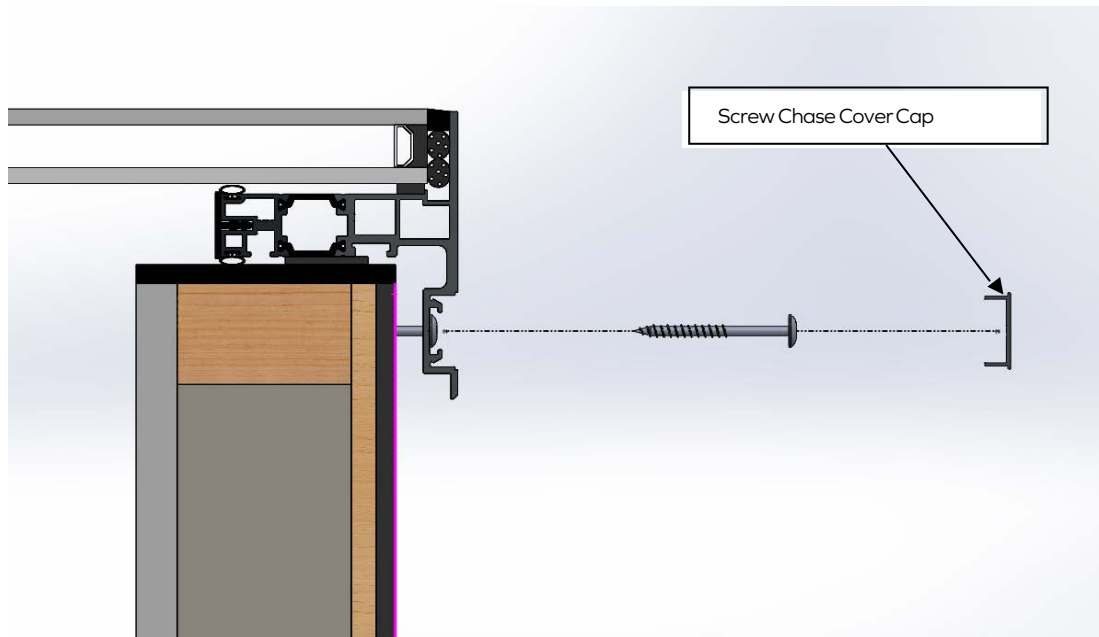

Fig 3 – Kerb Fixing Screw Cover Cap
- ▶ 7 Using the kerb fixing screws supplied, fix the frame to the kerb horizontally through the fixing holes in the perimeter. frame. Make sure to pilot drill the kerb fixing holes with a 3mm drill bit so that the stainless-steel screw heads do not shear off. DO NOT overtighten the fixing screws as this will deform the perimeter glazing frame and could cause damage to the glass or cause leaks. See *Figure 3*.